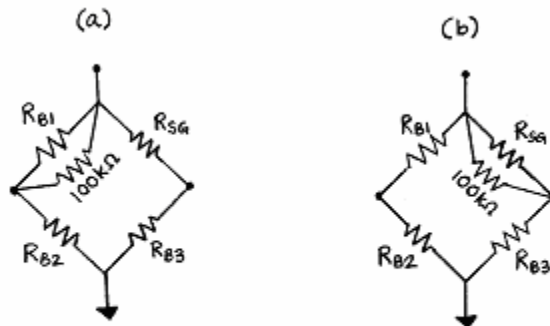

Figure 6. Addition of a parallel resistor to alter DC bias
6. If the DC bias  $V_{DC}$  in your circuit is **outside** of the range 125-175 mV, proceed as follows. Place the ruler flat on your table. Connect a 100 k $\Omega$  resistor in parallel with  $R_{B1}$  as shown in Figure 6(a). The DC bias should move either closer to or further away from the 150 mV mark. If the DC bias moves away from 150 mV, switch the 100 k $\Omega$  resistor so that it is connected in parallel with the strain gage  $R_{SG}$  as shown in figure 6(b). If adding a 100 k $\Omega$  resistor does not improve your DC bias, try using a 200 k $\Omega$  resistor instead. **Record the DC bias produced by this circuit.**
5. In Experiment #1, explain why connecting a parallel resistor as shown in Figure 6 allows you to move your DC bias.